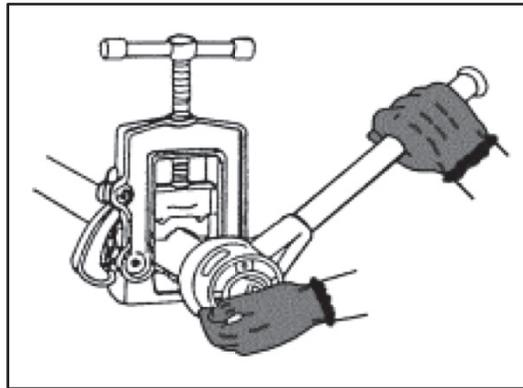

Figure 6-29. Threading pipe
- Step 2.** Slide the diestock over the end of the pipe with the guide on the inside. Push the die against the pipe with one hand (figure 6-29).